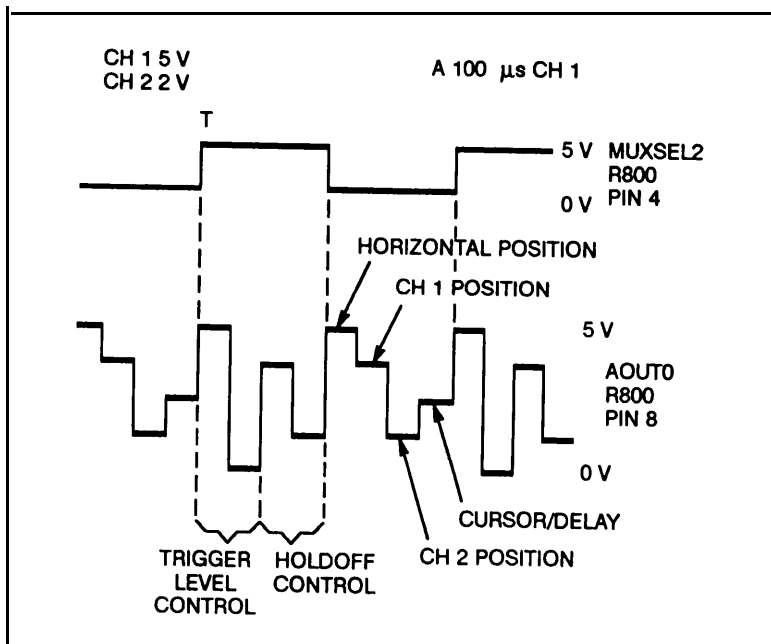

Figure 6-7. Mux Test waveforms.
6. Check that the pots go into the rate region at both extremes of rotation and that the voltage level for each pot moves smoothly from one amplitude level to the other (approximately 0.5 V to 5 V total range) as the pot is rotated. See the Mux Test waveform illustrations (fig. 6-7) to identify the portion of the waveform associated with the control being rotated.